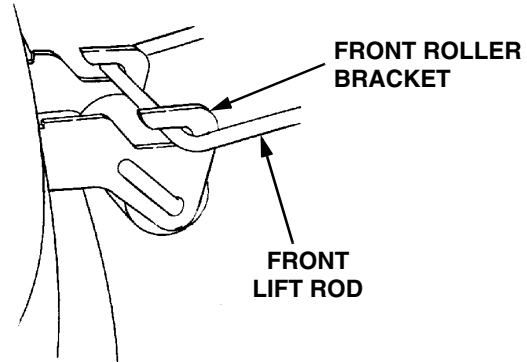

Figure 33
- While holding the front lift rod up, slide the mower deck forward until the rod aligns with both front roller bracket slots. Lower the lift rod into the front roller bracket slots and slide the deck rearward to engage the lift rod fully forward in the slots of the deck front roller bracket (Refer to Figure 33).